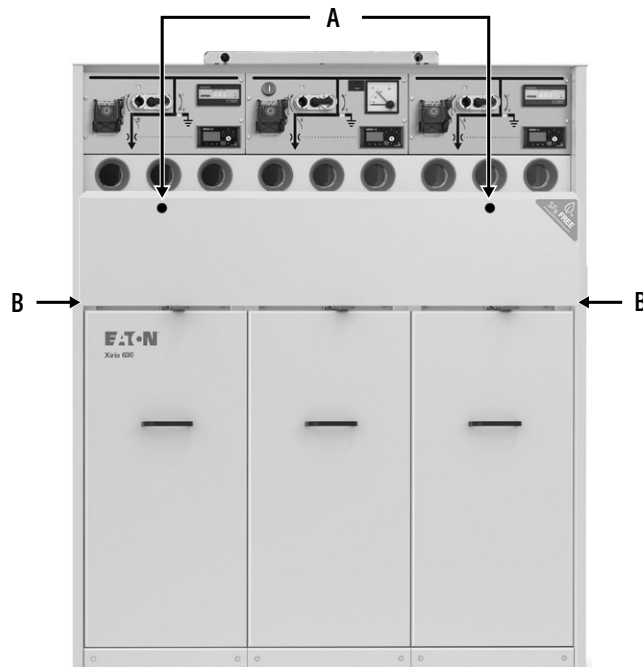

Figure 3-13: Hinged and deepened secondary front compartment
1. Unscrew the two thumb screws (A) at the front. See figure 3-13.